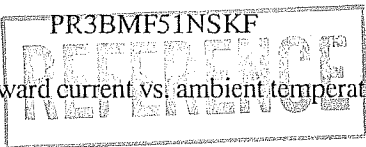

Fig.1 Forward current vs. ambient temperature(*1)
*1 The derating factors of absolute maximum rating due to ambient temperature are shown in Fig.1, 2.